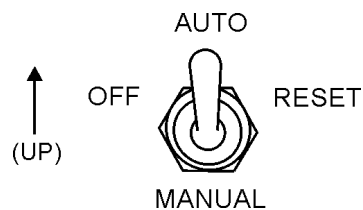

Figure 60. Off/Manual Auto Switch (AUTO)
4. Place the Off/Manual/Auto switch (Figure 60) in the **AUTO** position (up).